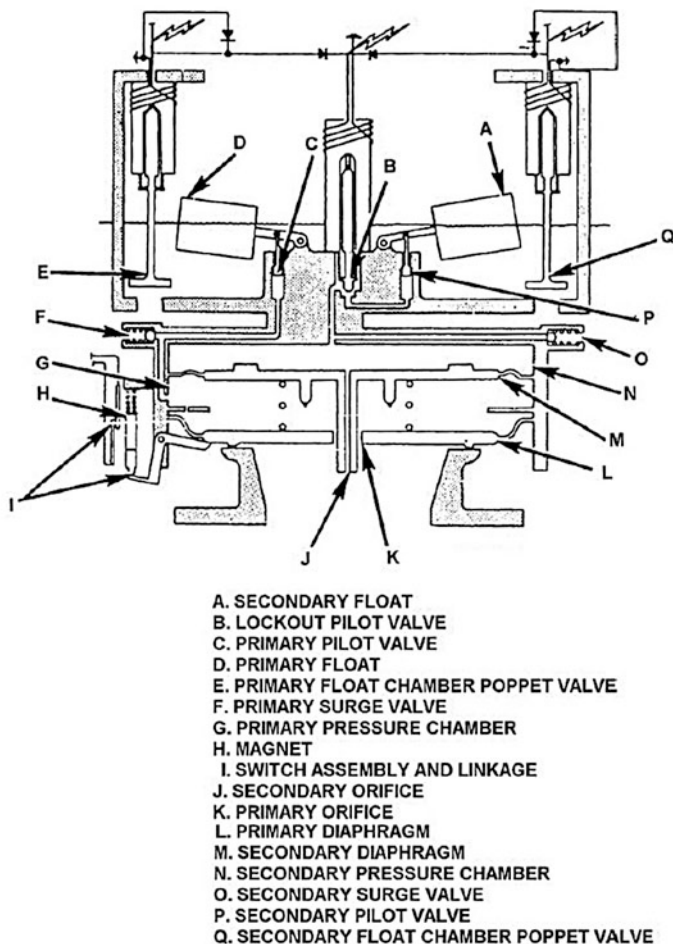

Figure 3-7. Dual-fuel level control valve.
Figure 3-7 shows a cutaway view of a dual-float fuel-level control valve. As the name implies, it is a dual-mechanism that has a primary system and a secondary system. Either system can perform the
The valve is installed in the tank with the pilot valve at the desired level. The valve controls the fuel entering the tank by way of the refuel system. In some instances, this valve may also control fuel entering the tank by way of the transfer system. The poppet valves (E and Q on fig. 3-7) are spring-loaded to the CLOSED position. They can be opened by the electric solenoids located directly above each respective valve. The floats (A and D) control the pilot valves (C and P) by closing the valves when the fuel level in the float chambers rises to the level shown in the illustration. There are two conditions in which fuel in the chambers will rise to this level.
Fuel must be flowing into the tank when you conduct an operational check of the valve, shown in figure 3-7. The primary solenoid valve is energized and the primary float chamber poppet valve seats. This closes off the chamber and allows the fuel level to raise and actuate the primary float (D). When the primary float rises, the primary pilot valve (C), which is linked to the float (D), closes off the passage. This trapped fuel pressure in the primary pressure chamber (G) becomes equal to inlet pressure. The primary diaphragm shuts off fuel flow since the area on the upper side of the diaphragm is greater. The diaphragm is also aided by the spring. When the primary diaphragm closes, it contacts the linkage and closes the switch assembly (I). This completes an indicator circuit that indicates the valve is closed. An operational check of the secondary side is performed following similar procedures as the primary, but in this case you de-energize the secondary float chamber poppet valve (Q).